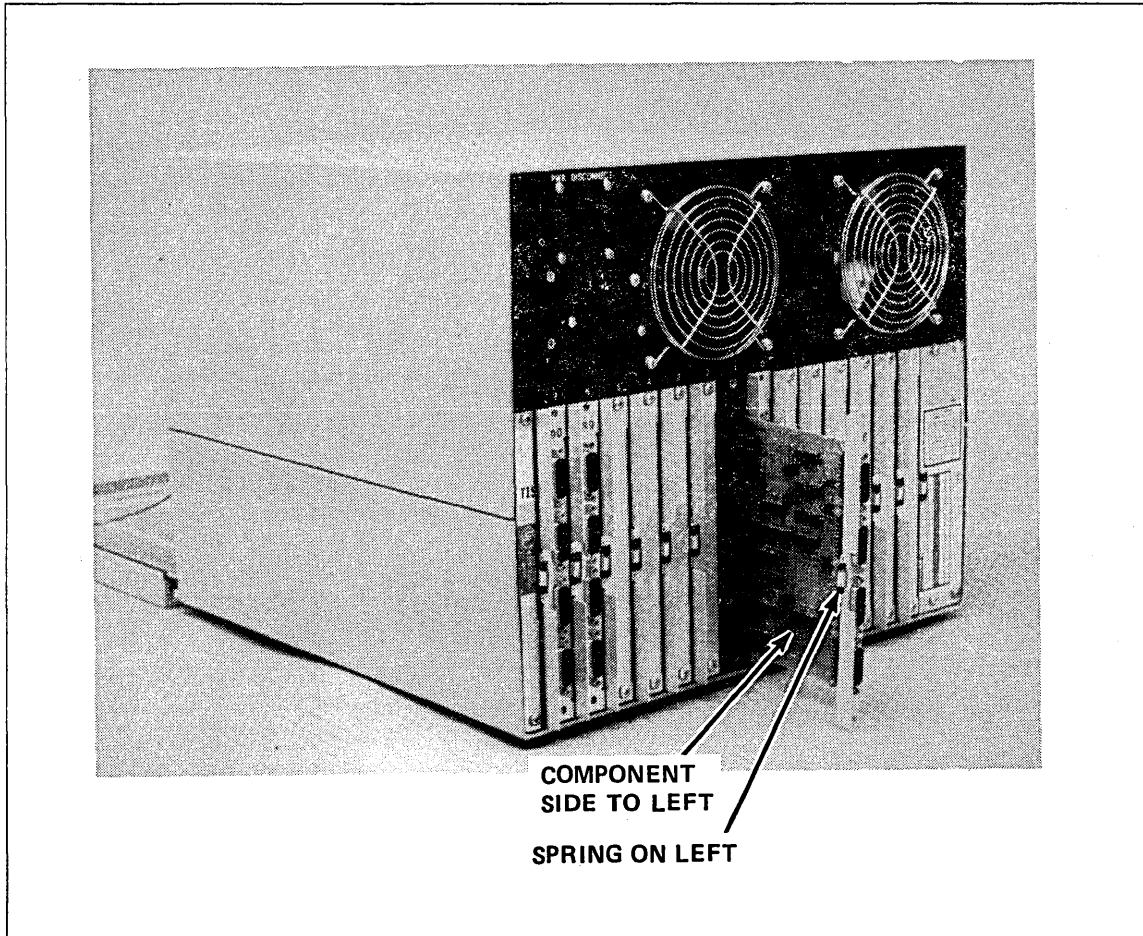

Figure 1-37. Installing LIM Boards
3. Plug the board into the LIM backpanel and fasten it with the two screws removed from the filler plate. LIM installation is shown in figures 1-37 and 1-38.